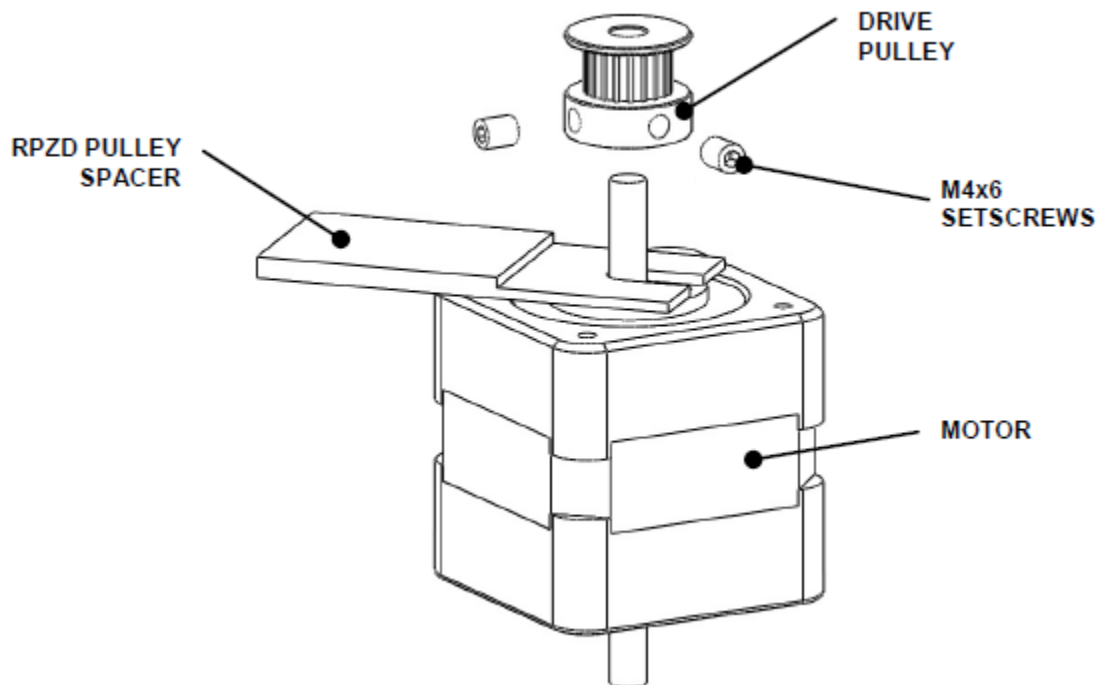

Figure O-28: Fitting the Pulley
1. Take a 20-Tooth Drive Pulley, remove and discard any set screws that come with it. Attach the pulley to the front shaft of the RP Z Motor with the DS2FIX004 using two M4x6 Set Screws) and Loctite 222 (Figure O-28).